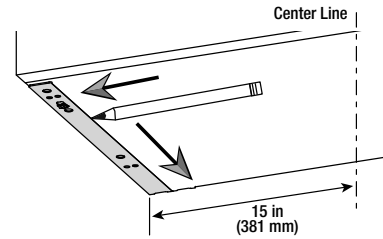

Fig. 17-1
- Align the bracket against the side edge of the 30 in (762 mm) cabinet cabinet and the back wall. Draw a line along inner edge of the bracket as shown in fig. 17-1.